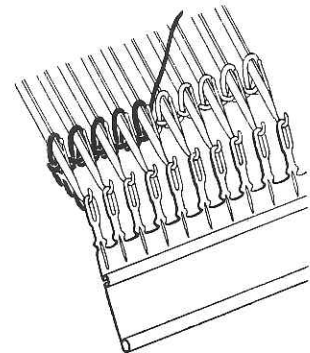

Fig. 6
1. *Bring 20 needles on the left side of your machine into holding position and knit 1 row across the remaining 20 needles on the right. Remove the yarn from the feed finger and lift the yarn UP and above the needles as shown in Figure 6.